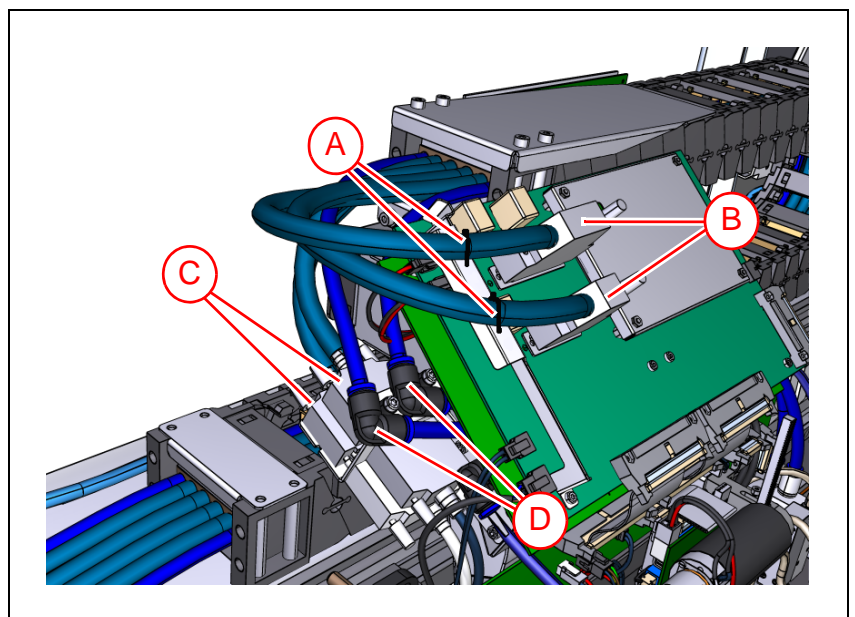

Figure 5-32. Remove X-wagon connectors.
6. Cut the cable ties ('A' in Figure 5-32) fixating the cables to the bracket on the XWZB (X Wagon Z Board).
7. Remove the two cable connectors ('B' in Figure 5-32) located on the XWZB (X Wagon Z Board).
8. Remove the two cable connectors ('C' in Figure 5-32) attached to the Fan holder unit on the X wagon.
9. On the X wagon, disconnect the vacuum and pressure hoses from the hose fittings ('D' in Figure 5-32).